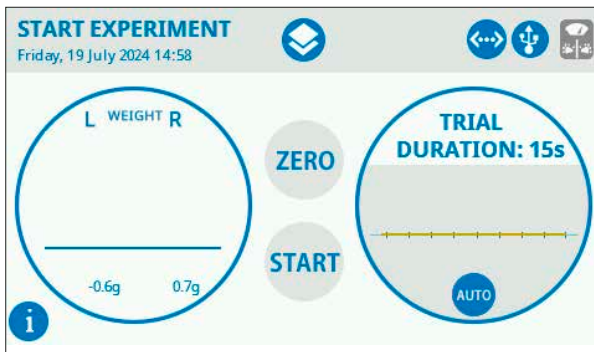

Figure 4.6.2
- Autostart Stabilization Threshold: 10%. With this value, Librae considers that the animal is quiet and ready for experiment ONLY IF the NOISE on foot pads is LESS THAN 6g (10% of 60 grams). See Figure 4.6.2 for details.
Go to Home Page Menu, and press START button (Figure 4.6.2);